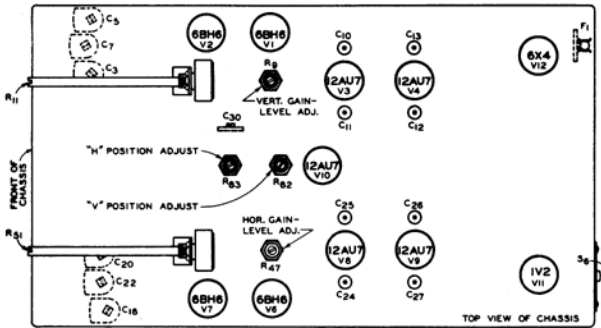

Figure 23A. Top-chassis view of instruments having code numbers 650, 651, 751, and 951.
Internal gain-level adjustments for the oscilloscope are located inside the case. Their locations are shown in Figures 23A and 23B.
1. Turn on the instrument and allow one hour for the WO-56A to thoroughly warm up. Instruments with code numbers 650, 651, 751, and 951 will require removal of the chassis from the case to provide access to the vertical-gain adjustments. Locations of adjustments for all instruments are shown in Figures 23A and 23B.